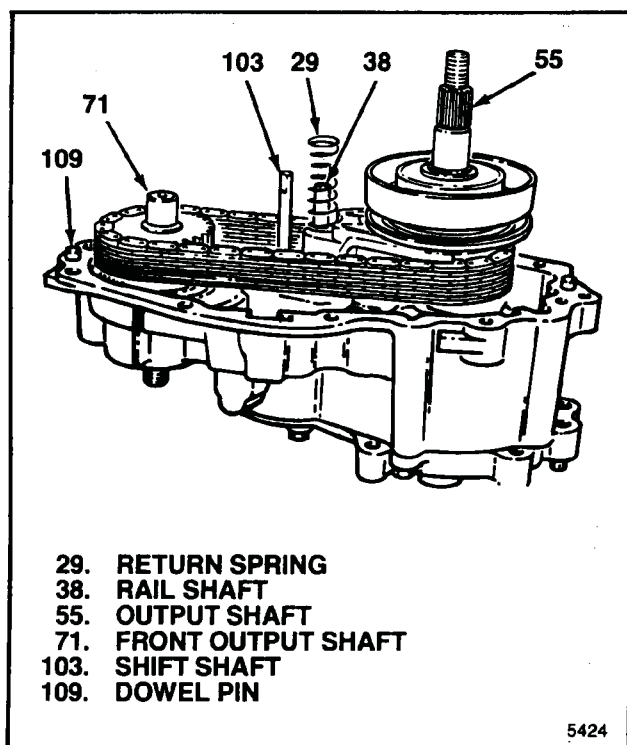
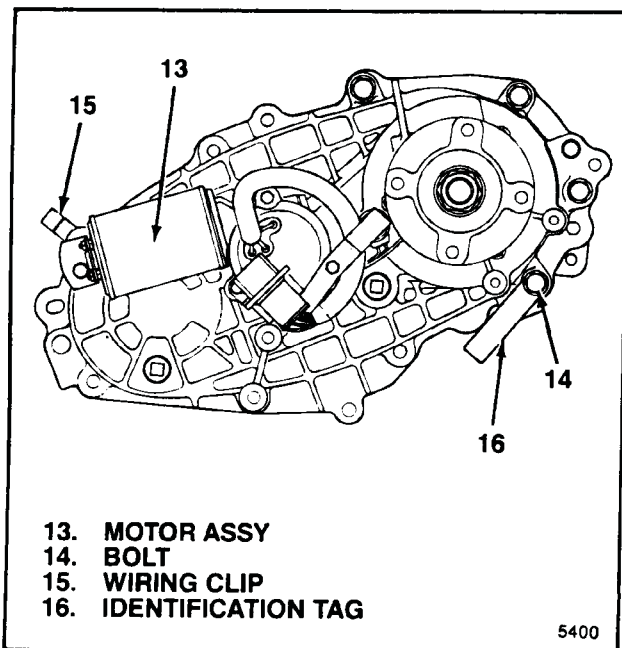

Figure 5-20. Parts To Be Aligned With Cover
Figure 5-21. Wiring Clip, Identification Tag and Motor Locations
d. Install cover assembly (17) on transfer case (111). All of the following alignment conditions must be met for the cover assembly to seat on transfer case properly (see figure 5-20):
1. Cover holes with transfer case dowel pins (109).
3. Blind hole in cover with rail shaft (38). Make sure spring (29) is not cocked. On electric shift, check with pen light through cover hole for speed sensor.
4. On electric shift units, cover bearing with shift shaft (103).
e. Install nine bolts (14) positioning identification tag (16) and wiring clip (15) under bolt heads at locations shown in figure 5-21. Torque bolts to 20-34 lb-ft (27-46 Nm).
f. Install speedo gear (27) over spline of output shaft (55) into cover assembly (17).
g. Press new oil seal (28) into cover assembly (17).
b. Position motor assembly (13) so that triangular slot in motor will align with shift shaft (103) (see figure 5-23). Move motor in to engage shift shaft and contact cover (25). Then rotate motor in clockwise direction until motor is in correct position (see figure 5-21) and mounting holes are aligned.
c. Fit o-ring (12) on speed sensor (11) and install speed sensor assembly (10) in cover. Install bracket (9) so that it is over speed sensor and install three bolts (9). Torque bolts to 6-8 lb-ft (8-11 Nm).
d. Install bolt (6) and washer (7) at bracket end of motor assembly (13) and torque to 6-8 lb-ft (8-11 Nm).